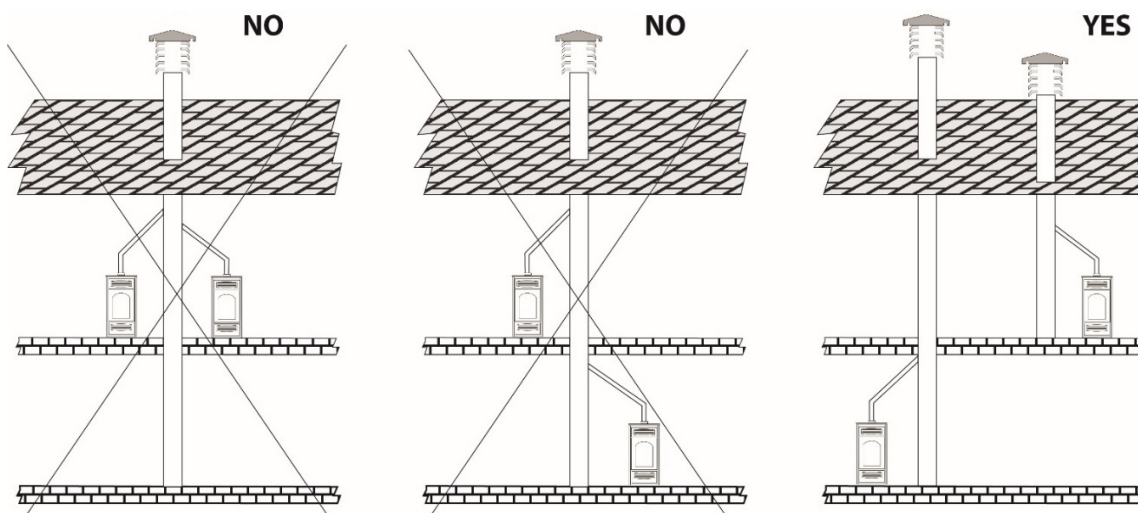

Fig.1
- It should not be connected to any other fireplace, stove, boiler, or hood of any kind (Fig. 1).